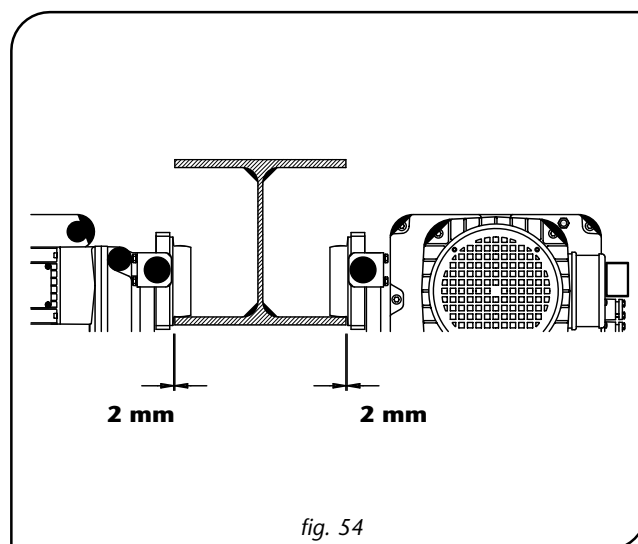

fig. 54
13. Check that all four sliding tracks of the trolley wheels are resting correctly on the girder and that between their edge and the wing of the section bar there is a maximum clearance of 2 mm on either side (fig. 54).